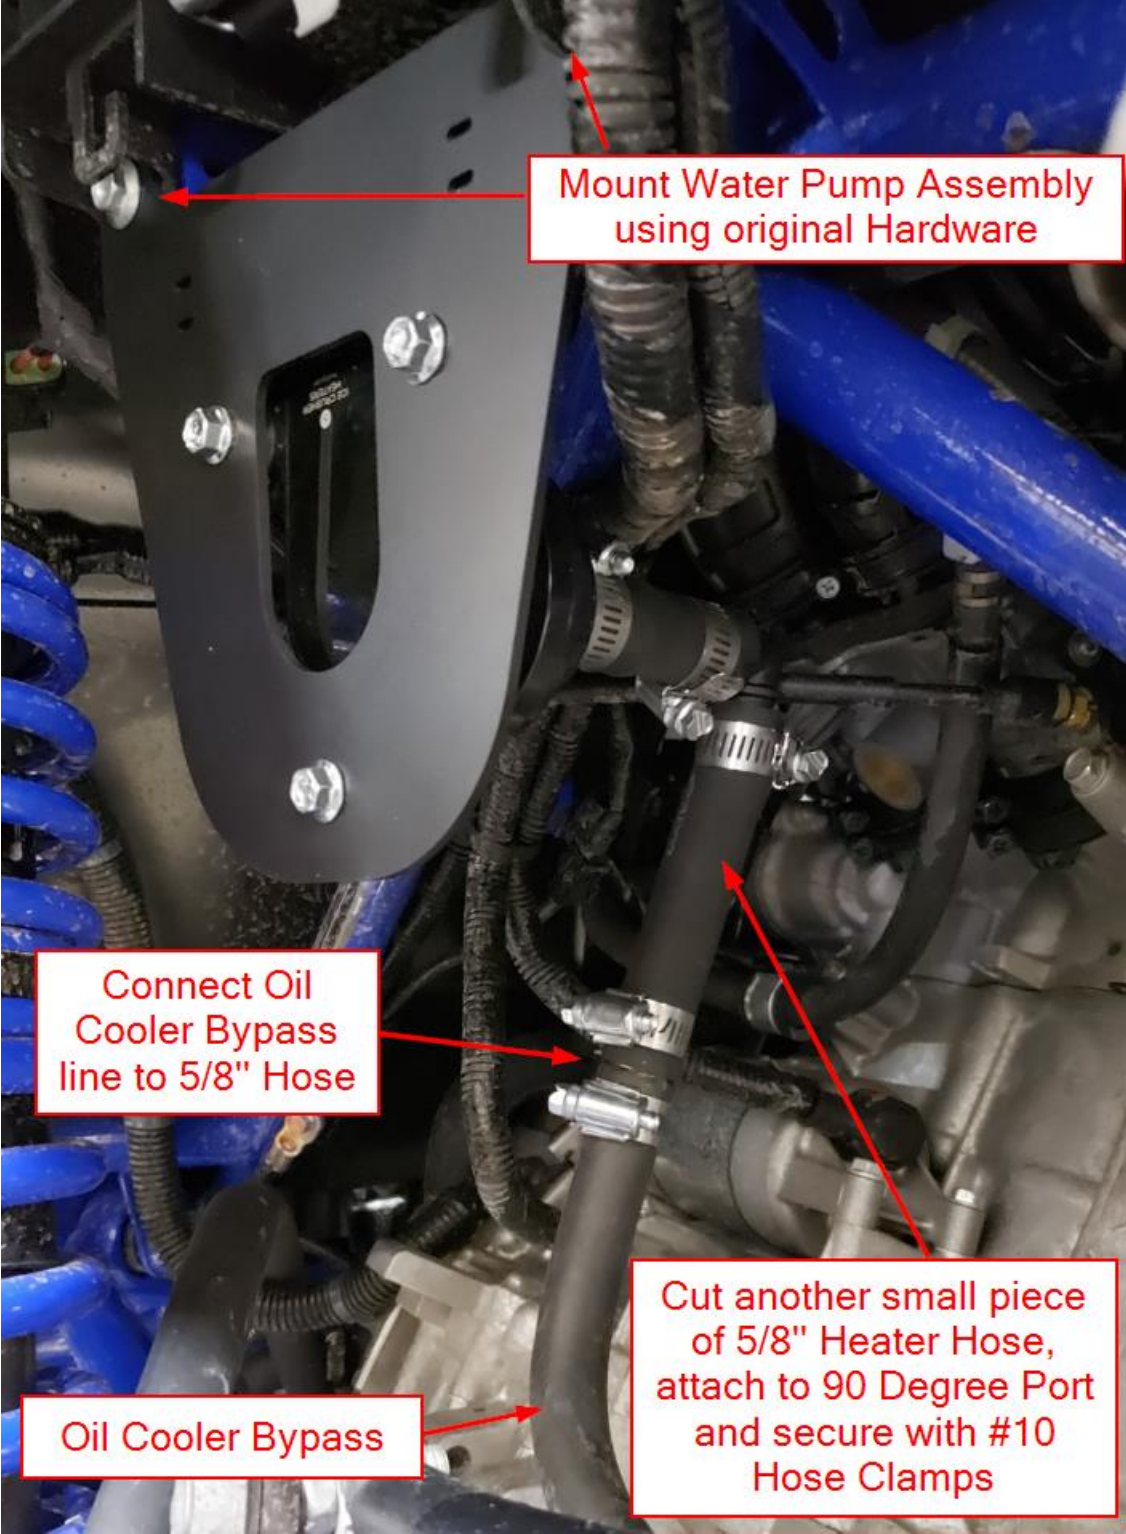

Figure 32
- e. Attach the Water Pump Assembly to the Battery Compartment as shown in Figure 32 using the original hardware.
- f. Cut another short piece of 5/8" Heater Hose, secure it to the 90 Degree Port with a #10 Hose Clamp and connect the 5/8" Heater Hose to the ½" x 5/8" Barbed Fitting installed in the Oil Cooler Bypass Line as shown in Figure 32.